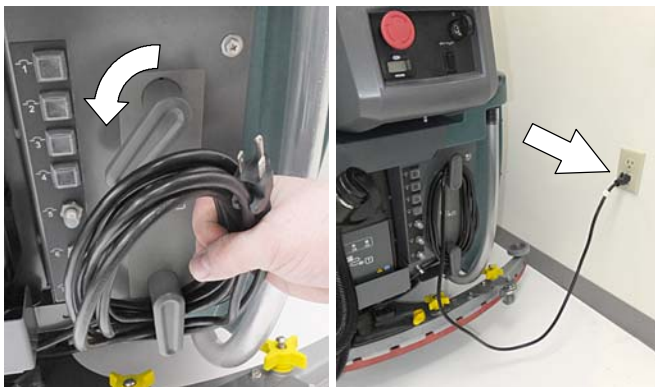

FIG. 72
4. For models equipped with an on-board charger, remove the charger's power cord from the storage hooks and plug power cord into a properly grounded wall outlet (Figure 72).